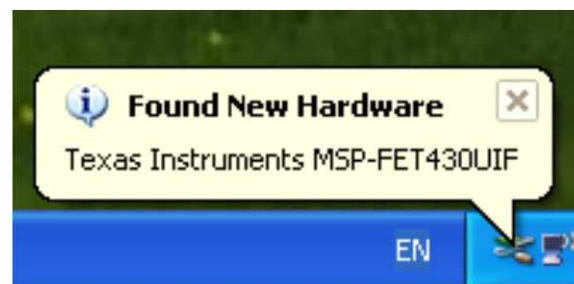

Figure B-9. eZ430-RF Windows Driver Installation
- Windows should now recognize the new hardware as an "MSP430 XXX x.xx.xx" (see Figure B-9). The device name may be different from the one shown here.